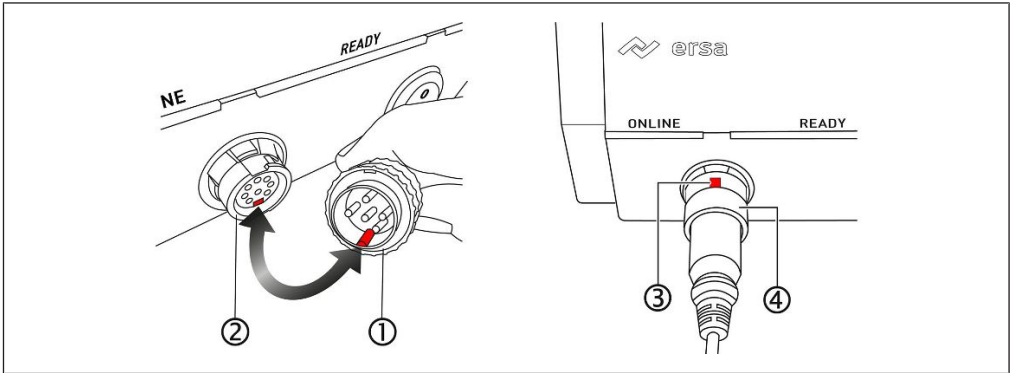

Fig. 6: Inserting the soldering iron connector
- f) Fig. 6 left: Insert the soldering iron connector [1] into the soldering iron socket at the soldering station [2]. When doing so, align the connector anti-rotation device with the lower mark on the socket, see arrow.
- g) Fig. 6 right: Align the recess of the union nut on the soldering iron connector [3] upwards. Then press the union nut [4] onto the connector and lock it by turning it 90 degree clockwise.